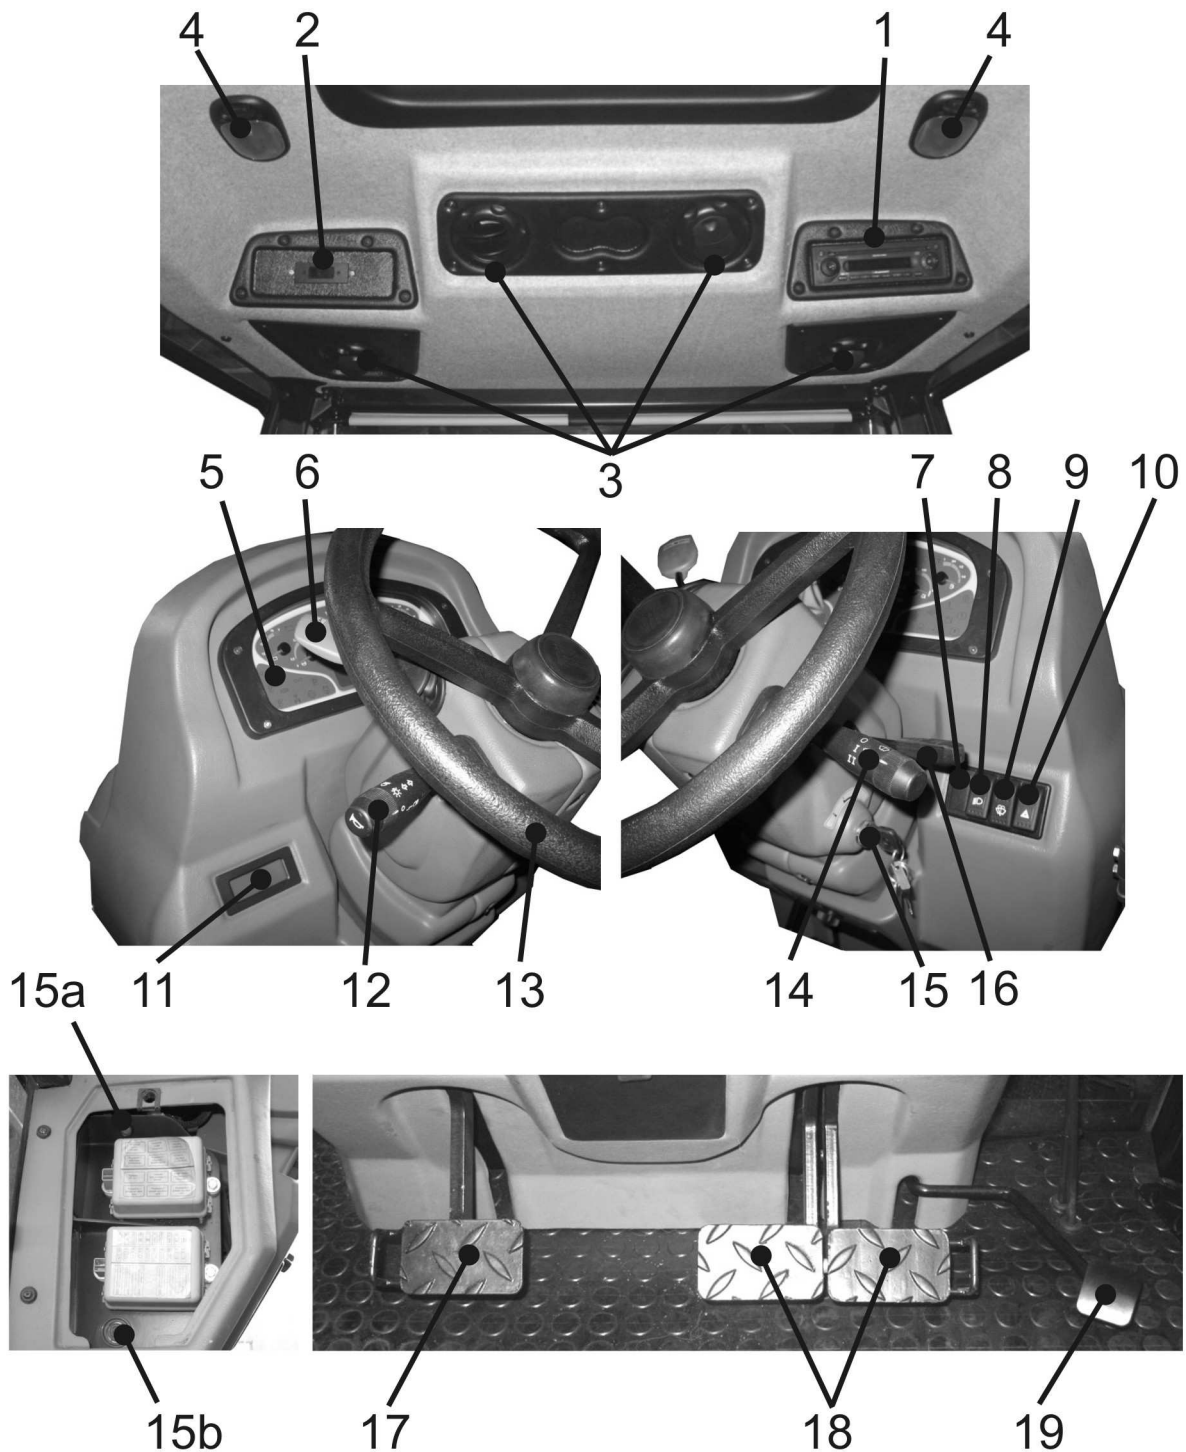

Figure 4-7 Positioning of controls and instruments of PRONAR 6170 / 6180 tractors
- (PRONAR 6180) engine diagnostic light. Enables you to read the engine diagnostic code after pressing diagnostic button (item 15a; Figure 4-7) located underneath the fuse cover to the left of steering column. **ATTENTION! Read and removal of faults may be carried out only an employee's Authorized Service PRONAR.**